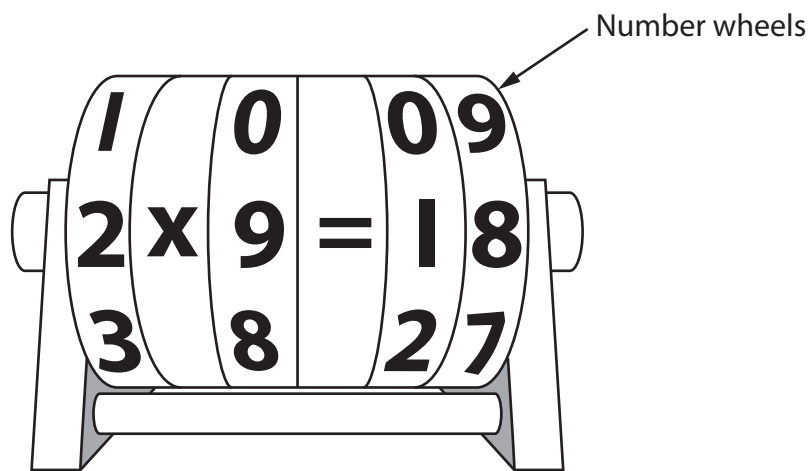

Figure 10
- 6 Figure 10 shows a teaching aid for use in schools.